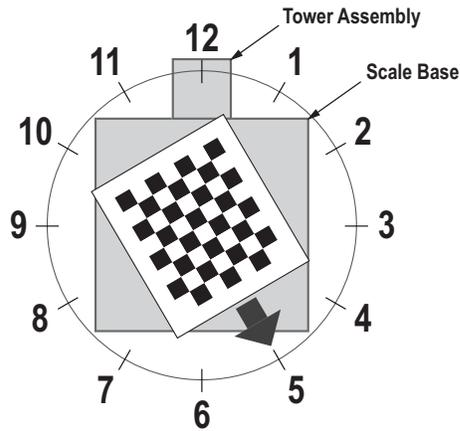

Figure 5-6. Rotate to 5 o'clock
- Align calibration object so the cross hairs are centered. Rotate the calibration object to 5 o'clock with the tower assembly being at 12 o'clock (Figure 5-6).